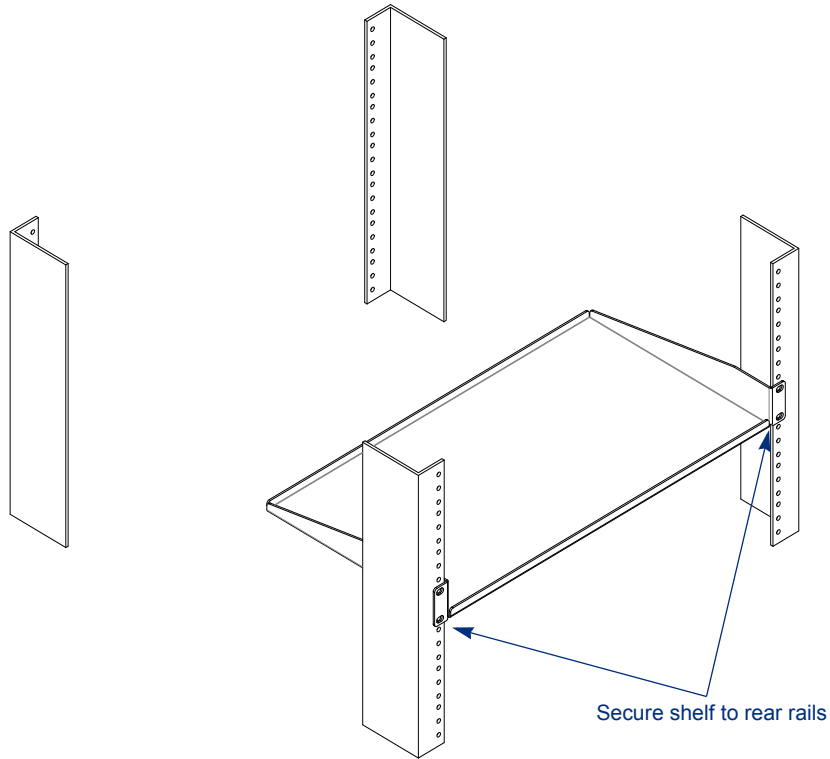

Figure 18. Rack shelf
3. Install the chassis rear rack shelf to the rear mounting rails of the rack using two screws on each side as shown in Figure 18.